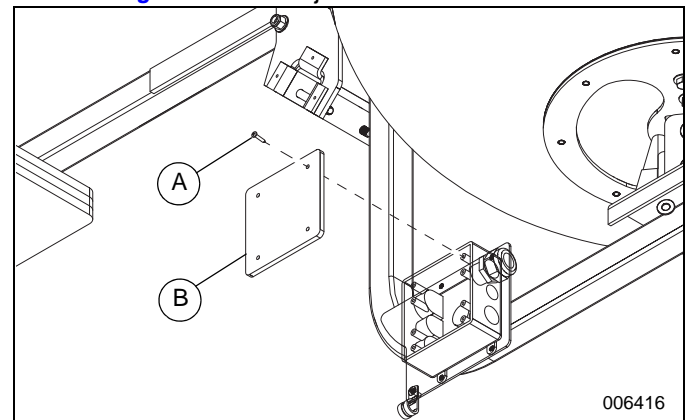

Figure 15. Junction Box Cover Installation
12. See Figure 15. Install junction box cover.
- See Figure 15. Install junction box cover.